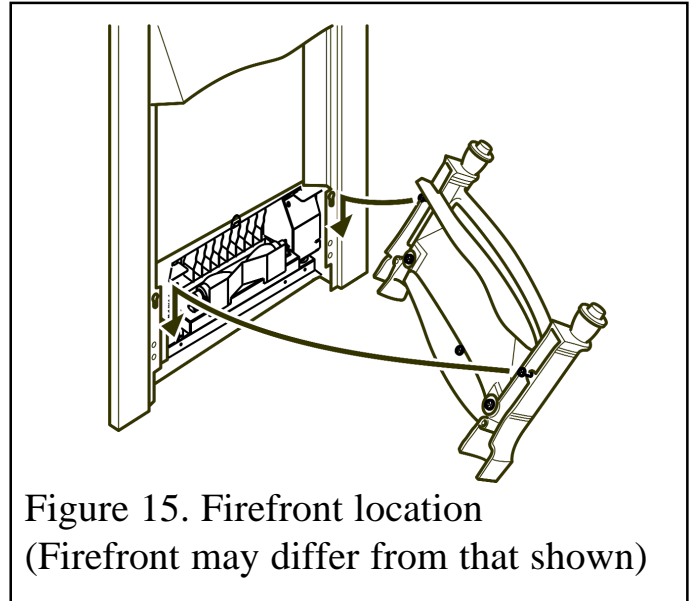
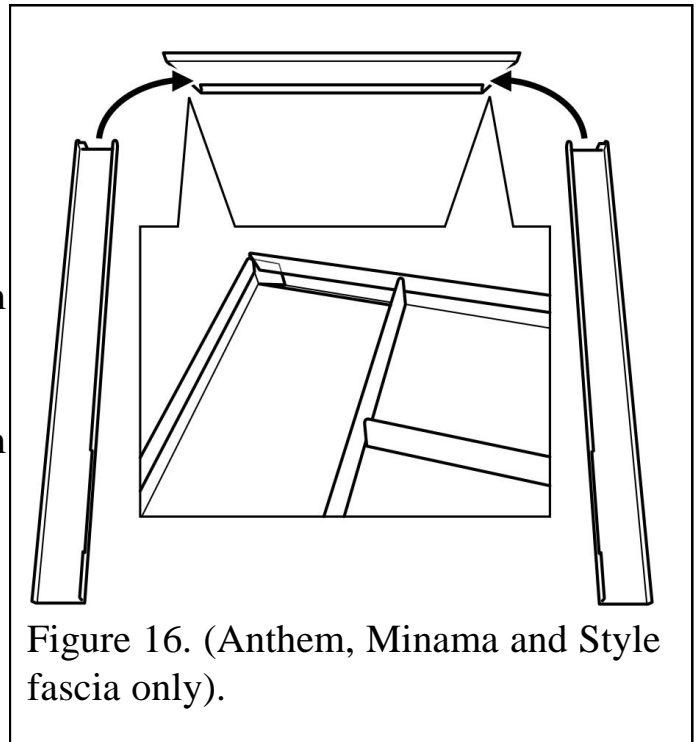

Figure 15. Firefront location
Figure 16. (Anthem, Minima and Style fascia only).
The rear of the firefront has two screws that locate into 'keyhole' brackets on the heater (See figure 15). (*On Victorian models screw the brass firefront columns supplied with the firefront into the top of the firefront*).
3. Hook the firefront on to the fascia as in figure 15.
1. Lay the three fascia parts face down on a flat surface as in figure 15. Each side trim has a small tab at the top. Position the tab to the outside upper edge (See figure 16).
2. Locate the left-hand-side-trim tab into the slot / fold along the upper edge of the top trim (See figure 16).
3. Locate the right-hand-side-trim tab into the slot / fold along the upper edge of the top trim (See figure 16).